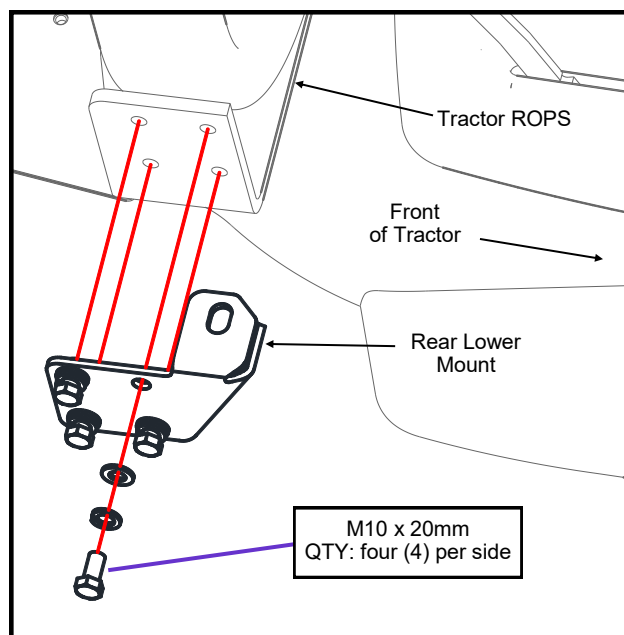

Fig. 1.3: Rear Lower Mounts (right side shown)
- 1.3 Per Figure 1.3, install the rear mounts to the side of the ROPS using 4 (four) M10 bolts, split washers and flat washers per side, supplied in the hardware kit.